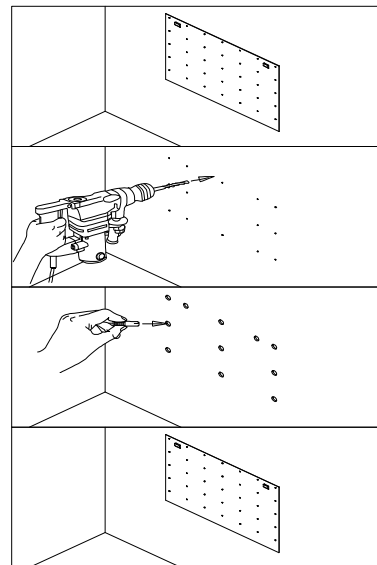

Fig.3
5. Fix the hanger to the wall. Referring to Fig. 3.